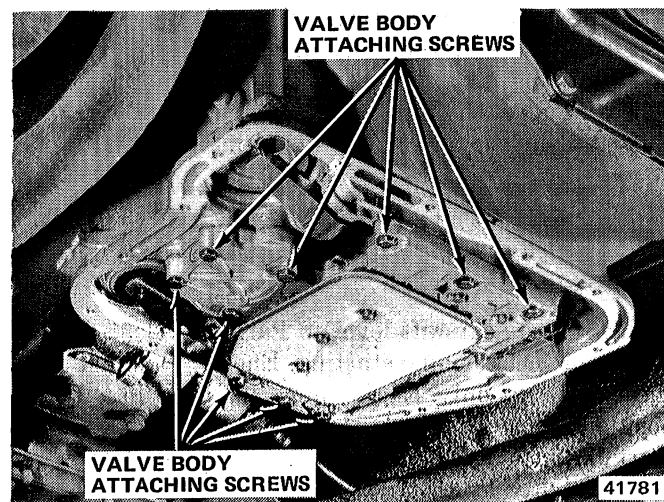

Fig. 2C-21 Valve Body Attaching Screw Location
- (1) Raise vehicle.
- (2) Remove oil pan and drain fluid.
- (3) Loosen clamp bolts and remove throttle and manual valve control levers from valve body shafts.
- (4) Remove neutral switch from case.
- (5) Remove valve body attaching screws (fig. 2C-21).
- (6) Lower valve body, pull valve body forward to disengage park lock rod, and remove valve body.